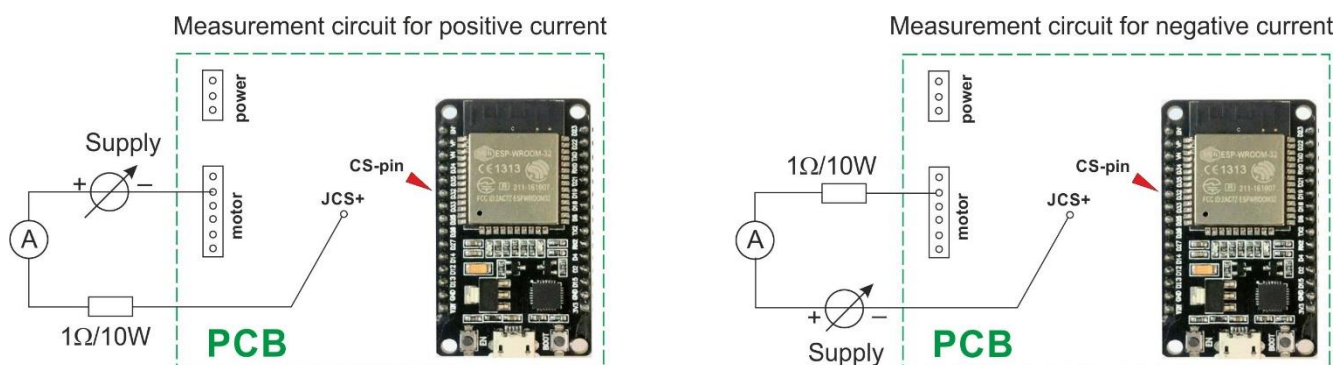

figure 4.3: Measurement setup for testing the current sensor.
The circuits given in figure 4.3 are used to test the current sensor circuit,. The left figure is used to measure at a positive current (a current from CS+ to CS-), the right figure is used to measure at a negative current (a current from CS- to CS+). The current is measured with a multimeter, the voltage on the current sensor pin (CS-pin) is measured with the esp32. The supply is an adjustable power supply of at least 3A.
a. Change main.py of question 15 in such a way that each 500 [ms] the voltage on the CS-pin is shown. Build first the left measurement circuit of figure 4.3. Increase the current in steps of about 0.3[A] from 0[A] to 2.4[A]. Fill in the table below. Check if the measured value of CS and the ADC value match your expectations. If not, try to find out what goes wrong.